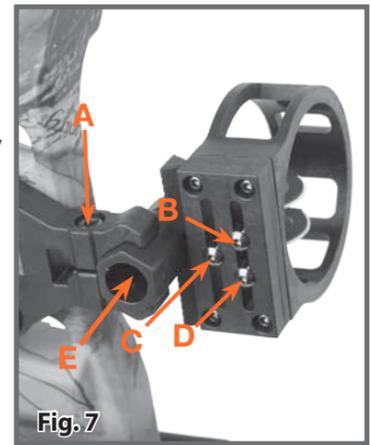

Fig. 7
- The sights can be adjusted by loosening the hex bolts by turning them counterclockwise (see figure 7).